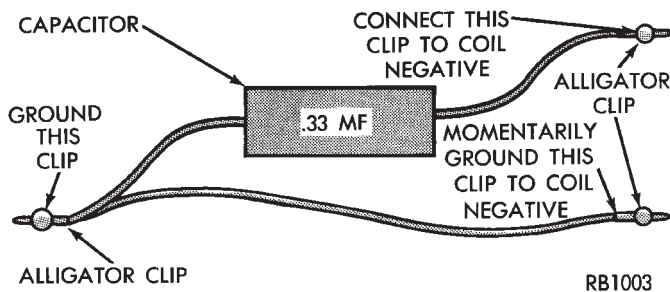

Fig. 16 Special Jumper Ground-to-Coil Negative Terminal
(5) Remove test lead from the coil positive terminal. Connect an 18 gauge jumper wire between the battery positive terminal and the coil positive terminal.
(6) Make the special jumper shown in figure 16. Using the jumper, **momentarily** ground pin/cavity number 19 of the PCM 60-way connector. A spark should be generated at the coil cable when the ground is removed.